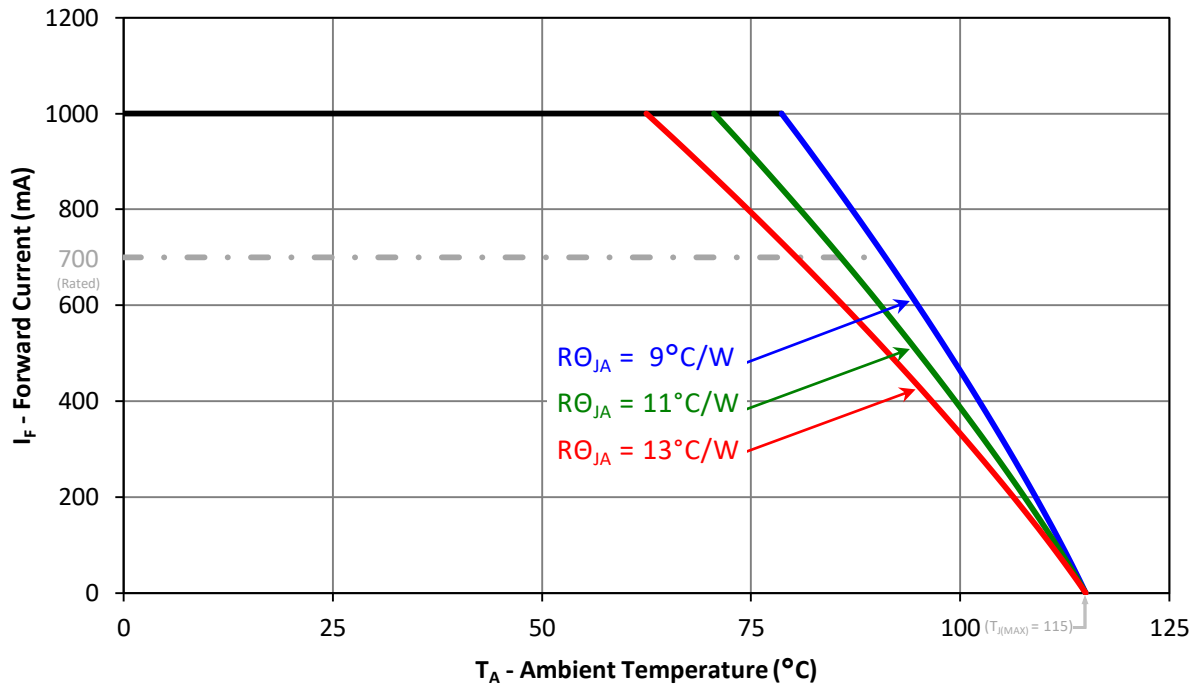

Figure 11: Maximum forward current vs. ambient temperature based on $T_{J(\text{MAX})} = 115^\circ\text{C}$
- Maximum DC forward current is determined by the overall thermal resistance and ambient temperature. Follow the curves in Figure 11 for current derating.
Notes for Figure 11: